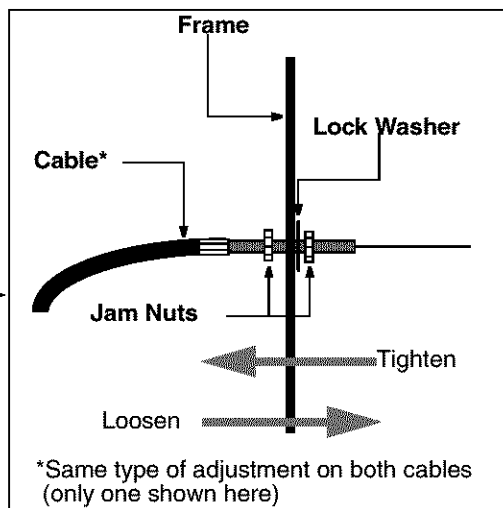

Figure 12
Adjustment to the brake pedal is made at the cable end. See Figure 12 .
5. Locate the brake cable on the right side under the front housing. See Figure 12 .
6. Using a pair of 1/2" wrenches, loosen the jam nuts and back the cable out to tighten or thread inward to loosen. See Figure 12 inset.
Adjustment to the "Go" Pedal is made at the cable end. See Figure 12 .
5. Locate the speed control cable under the front housing. See Figure 12 .